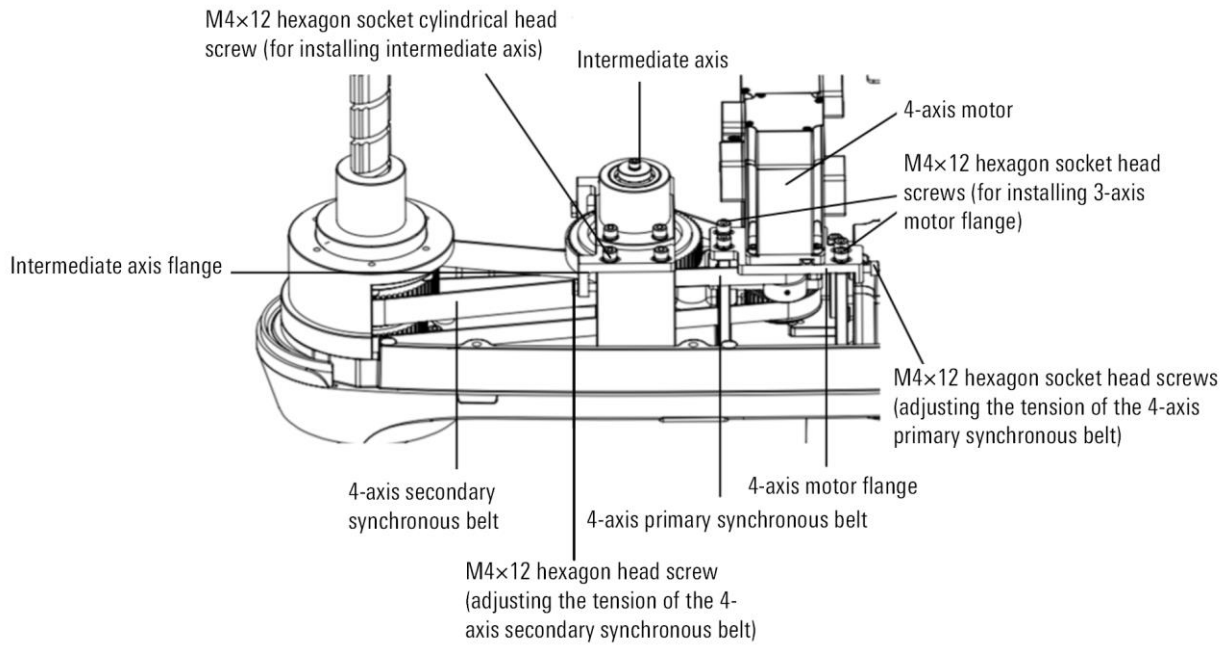

Figure 8-8 Diagram of disassembling 4-axis motor flange and intermediate axis
- Step4. Use an Allen wrench to remove the four M4x12 inner hexagon socket head screws for installing the 4-axis motor flange, and then slowly loosen the a M4x12 inner hexagon socket head screw that adjusts the tension of the 4-axis first-stage timing belt. Take off the flanges of the 4-axis motor and 4-axis motor together, as shown in Figure 8-8.
- Step5. Use an Allen wrench to unscrew and remove the four M4x12 hexagon socket head screws for installing the intermediate shaft flange, and then use a common wrench to slowly loosen the two M4x12 hexagon head screws that adjust the tension of the 4-axis secondary timing belt. Take off the intermediate axis and the intermediate axis flange together, as shown in Figure 8-8.